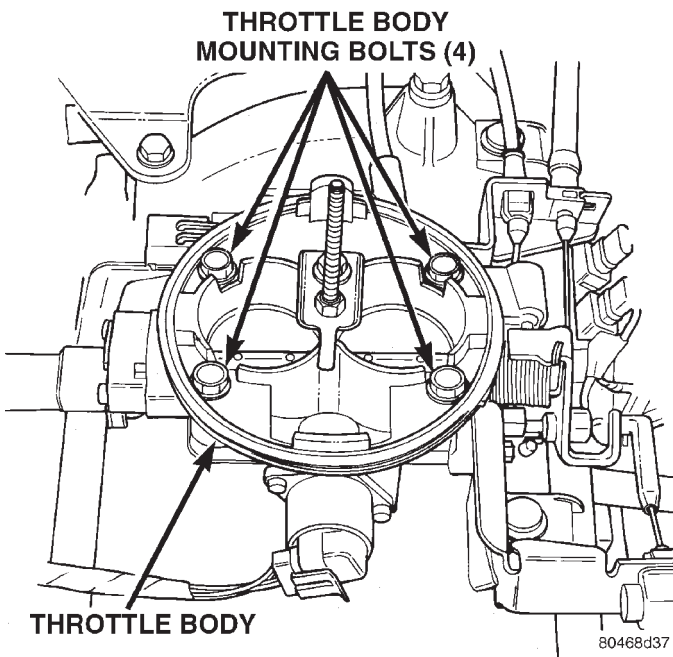

Fig. 39 Throttle Body Mounting Bolts—3.9/5.2/5.9L Engines—Typical
- (5) Remove four throttle body mounting bolts (Fig. 39).
- (6) Remove throttle body from intake manifold.
- (7) Discard old throttle body-to-intake manifold gasket.